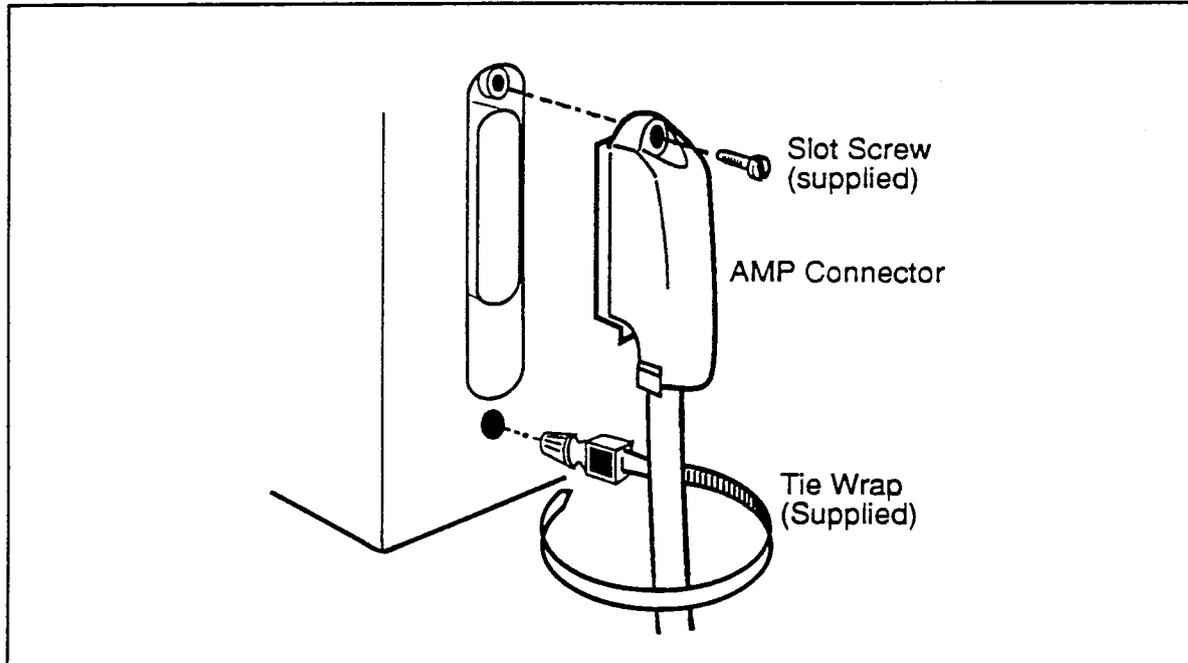

Figure 6-6 C.O. Cable Connection
- Step 1. Use a 25-pair cable (maximum length 25 ft.) terminated at one end with a 50-pin 'D' Amp male connector and at the other end with a 50-pin 'D' Amp female connector. Install the male end of the cable to the RJ 21X connector, and the female end of the cable to the KSU jack designated C.O. 1-8 on the Panther II 820 system, or C.O. 1-10 on the Panther II 1032 system. See Figure 6-1. When the Door Answering Unit forms part of the system configuration, do not connect C.O. line 10. (Refer to paragraph 6.09.) Secure the 25-pair cable to the KSU using a plastic 'tie wrap' (Included with KSU), as shown in Figure 6-6 (provides strain relief, secures connection).